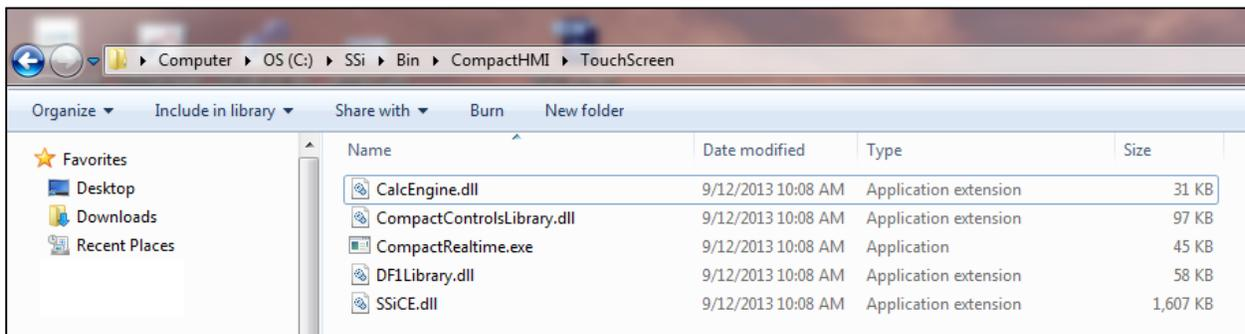

Figure 42 - TouchScreen folder (for updated touch screen files)
1. Locate the **TouchScreen** subfolder in the folder where Compact HMI Editor is located. An example is shown in Figure 42 (where the subfolder is "C:\SSi\Bin\CompactHMI\TouchScreen").